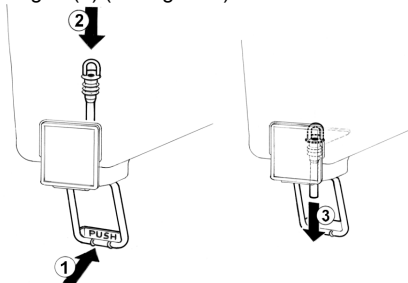

figure 4
- 2 **Pinch tube faucet:** push the dispensing handle (1) and insert the pinch tube into its vertical seat in the bowl bottom(2). Lightly pull the pinch tube end downwards til itl is well arranged (3) (see figure 4).